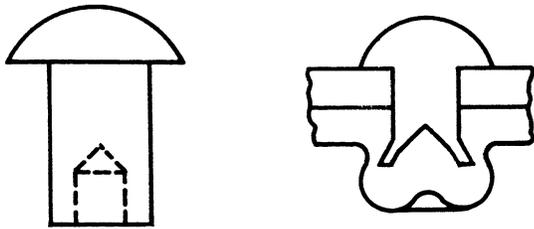

Figure 42.—Metal-piercing rivet. (From ref. 5.)
**Metal-piercing rivets.**—Metal piercing rivets (fig. 42) are similar to semitubular rivets, except that they have greater column strength. Part of the sandwich material is not drilled, and the rivet pierces all the way or most of the way through while mushrooming out to a locked position.